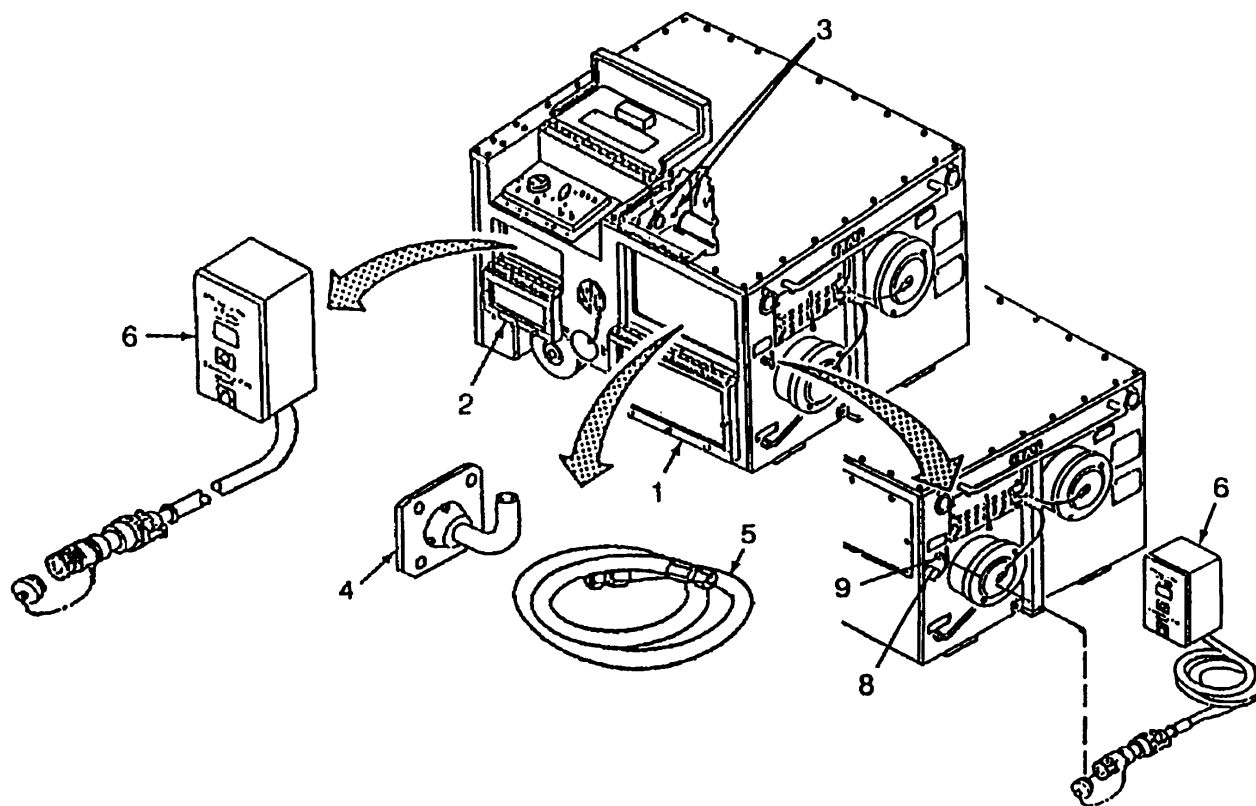

Figure 4-3. Assembly of Equipment (Sheet 1 of 2)
- a. Assembly of Equipment - continued. (Refer to Figure 4-3)
- (7) Open the exhaust pipe storage door (11) and remove the exhaust pipe (12). Close the exhaust pipe storage door (11).
- (8) Remove four screws (13) and exhaust cover plate (14).
- (9) Position the exhaust elbow (15) over the exhaust port (16).
- (10) Install exhaust cover plate (14) and four screws (13).
- (11) Install the exhaust pipe (12) on the exhaust elbow (15).